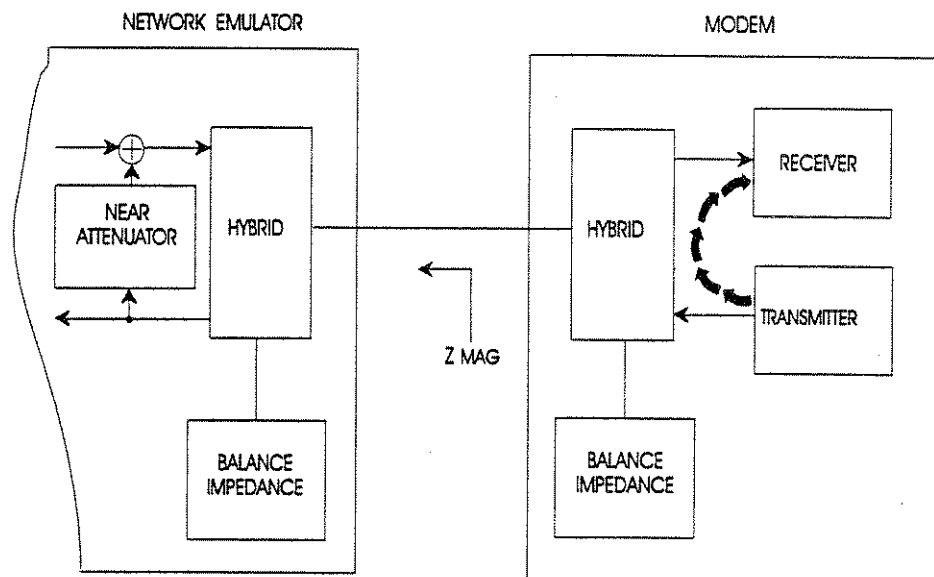

Figure 3-7. Near Talker Echo Without Loop
The TAS 100 Series provides near end talker echo simulation for station A and station B. Station A (B) near talker echo is illustrated in Figure 3-7 and is the reflection of the modem A (B) transmit signal that occurs at modem A (B). This reflection is caused by the impedance mismatch between the modem's hybrid balance impedance and the input impedance (Zmag) of the TAS 100 Series station A (B) 2-wire interface.